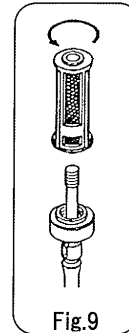

Fig.9
- ① Check to make sure all screws are tightened and that no parts are missing.
- ② Check to make sure there are no loose connections on hoses, nozzle, lance or ball cock. Also check that none of the packing have been cut or torn.
- ③ Thoroughly clean the nozzle and filter (for suction). Because it is a screw-in type, the filter (for suction) is easily removable. Occasionally inspect and clean this filter. (Fig. 9)